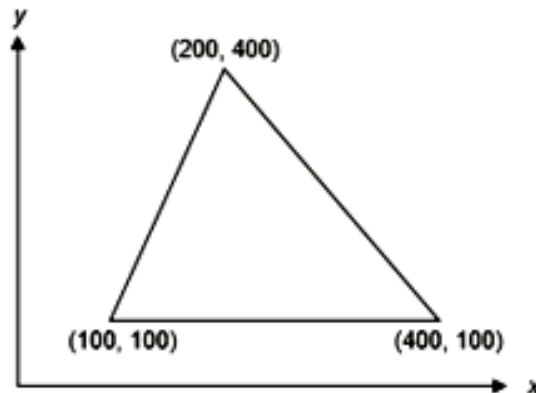

Fig. 2
b) For the CST element shown in Fig. 2, determine the strain–displacement matrix. The given nodal coordinates are in mm. Take $t = 20$ mm, $E = 2 \times 10^5$ N/mm².